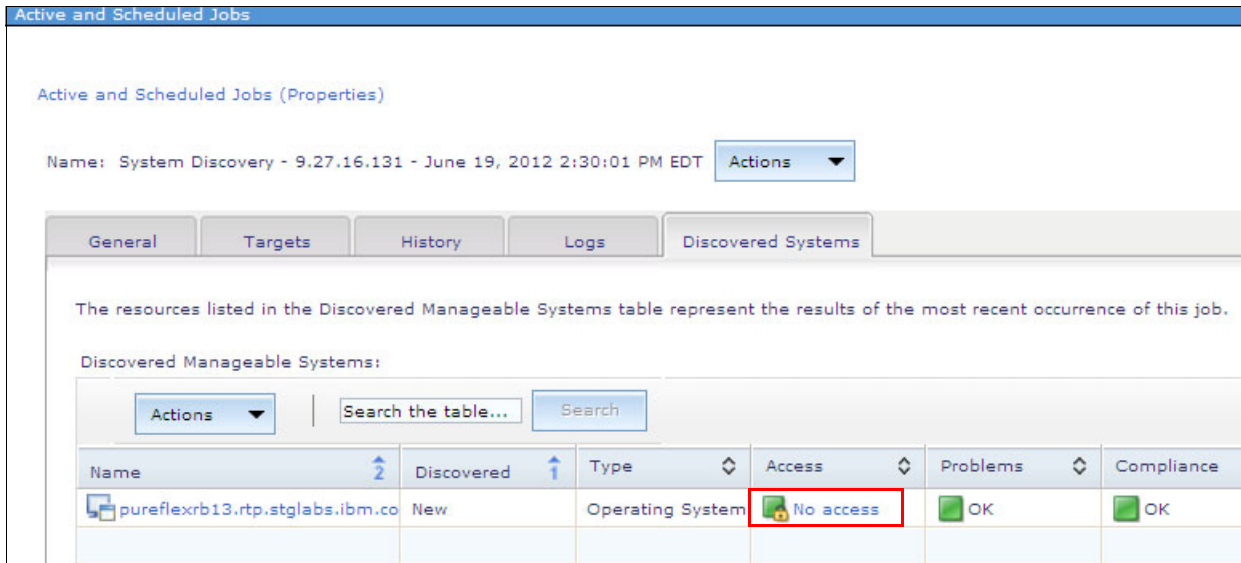

Figure 10-41 Discovered Systems tab
6. Click **No access** to gain access to the server, as shown in Figure 10-41.